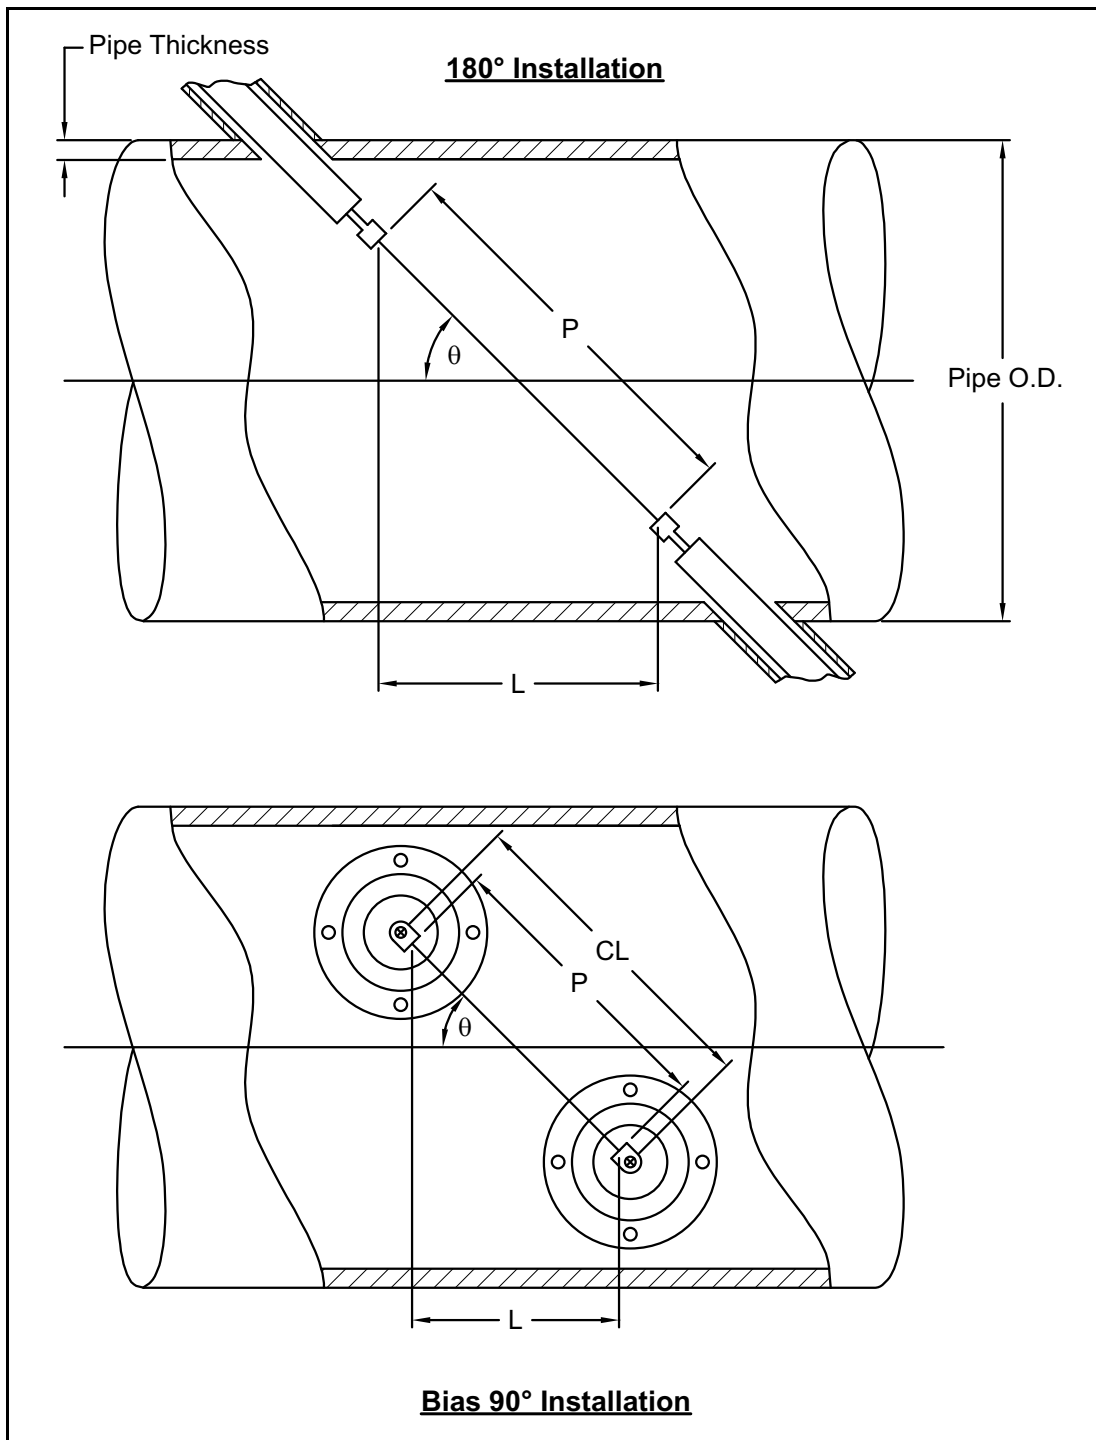

Figure 18: Top View of Transducer Installations
The accuracy of the programmed P and L values is critical to precise flow rate measurements. If GE supplies the flowcell for the system, the correct values will be included in the documentation supplied with the unit. For transducers installed on an existing pipe (see Figure 18 on page 58), P and L must be measured at the site. This appendix provides instructions for properly determining these dimensions.
Whenever possible, physically measure the face-to-face distance (P) and the axial distance (L) between the centers of the flat faces of the transducers. Refer to Figure 18 on page 58 for an illustration of the proper distances to measure in a typical installation.
With a Bias 90° transducer installation, it sometimes happens that the only known parameters are the transducer angle (θ) and the centerline distance between the transducer bodies (CL). In these cases, it is still possible to calculate both P and L by combining Equation D-1 above with Equation D-2 below (see *Figure 18 on page 58*):